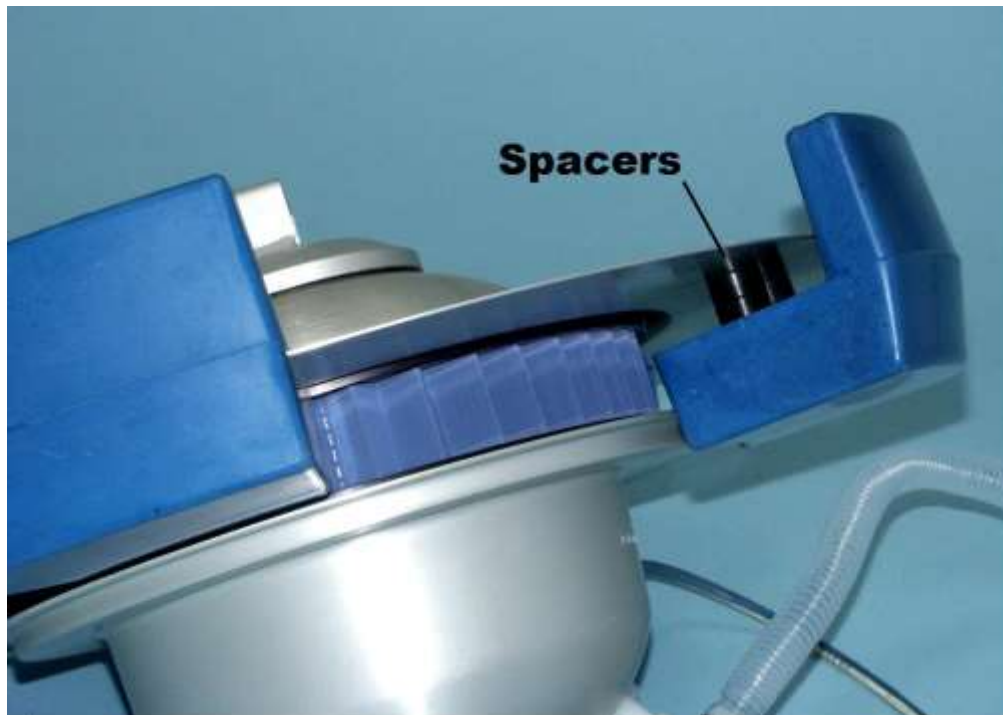

Figure 1-5: Detail of float (lowered) for rough water position.
The lid is made of anodized aluminum and has four blue polyurethane floats that serve as edge guides (thereby keeping the unit from getting hung up) as well as keeping the unit afloat. Flotation is provided by the four lid floats and the orange output hose floats. The lid floats may be adjusted with spacers to change the floating height of the oil/water separator cartridge with respect to the oil/water interface. Figure 1-5 shows a lid float with the spacers adjusted for a rough water position. See *Section 3: System Operation* for further information on changing the float height of the buoy.
In situations when the water is frequently rough or the cartridge has become contaminated with detergent it may be necessary to float the buoy above the oil/water interface in order to prevent water intrusion. The two pair of washer shims above each lid float may be placed between the lid and the float as shown in Figure 1-5. Note that a total of three float positions are possible with the spacers provided
2. Carefully pull out the four floats and re-insert them with either one or two spacers between the float and the lid (see Figure 1-5).